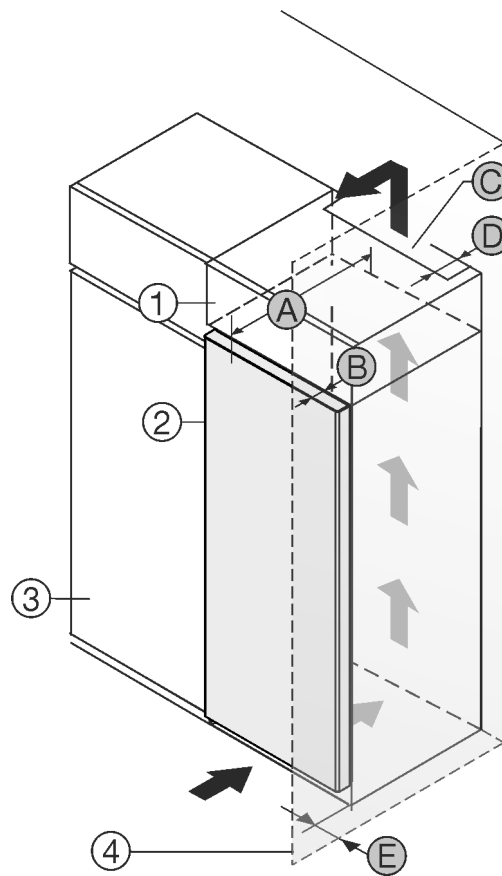

Fig. 1
- (1) Top cupboard *
- (2) Appliance *
- (3) Kitchen cabinet *
- (4) Wall *
- (A) Appliance depth *
- (B) Door depth *
- (C) Ventilation cross-section *
- (D) Distance to the rear of the appliance *
- (E) Distance to the side of the appliance *
You can place the appliance directly beside the kitchen cabinet Fig. 1 (3).
There must be a ventilation shaft at the depth Fig. 1 (D) of the back of the top cupboard over the entire width of the top cupboard.*
The cross section of the ventilation gap Fig. 1 (C) must be maintained below the ceiling.*
If the appliance is set up with the hinges next to a wall Fig. 1 (4), the distance between the appliance and the wall must be at least 13 mm.*
In order to be able to fully open the door, the appliance must protrude by the depth of the door Fig. 1 (B) from the front of the kitchen cabinet. Regardless of the depth of the kitchen cabinets Fig. 1 (3) and use of wall spaces, the appliance can protrude further.*